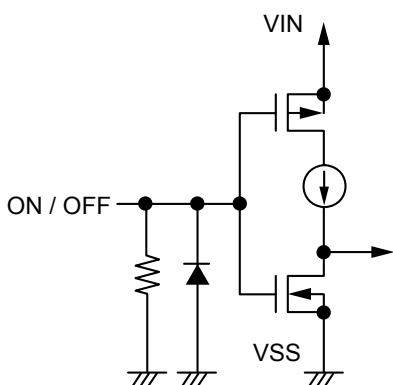
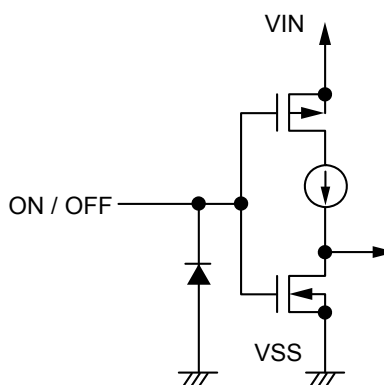

Figure 18 S-1333 Series A / C type
Figure 19 S-1333 Series B / D type
When the ON / OFF pin is set to OFF level, the entire internal circuit stops operating, and the built-in P-channel MOS FET output transistor between the VIN pin and the VOUT pin is turned off, reducing current consumption significantly. Note that the current consumption increases when a voltage of 0.25 V to $V_{IN} - 0.3$ V is applied to the ON / OFF pin. The ON / OFF pin is configured as shown in **Figure 18** and **Figure 19**.
*1. Note that the IC's current consumption increases as much as current flows into the pull-down resistor when the ON / OFF pin is connected to the VIN pin and the S-1333 Series A / C type is operating (refer to **Figure 18**).